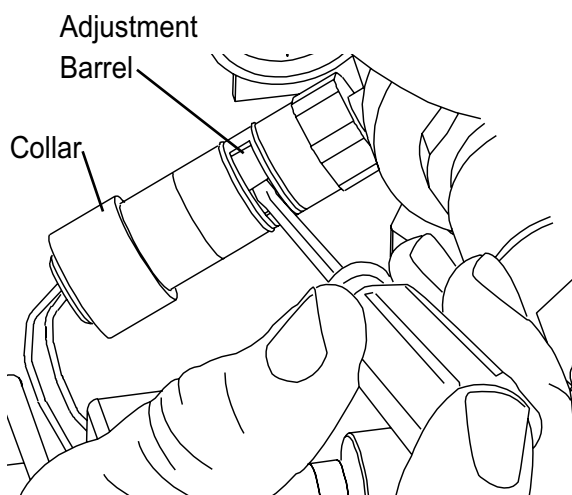

Figure 20
7. If switch adjustment is necessary, slide collar of switch toward wires to access internal adjustment barrel. Insert tip of small screwdriver into adjustment barrel and rotate barrel (Figure 20).